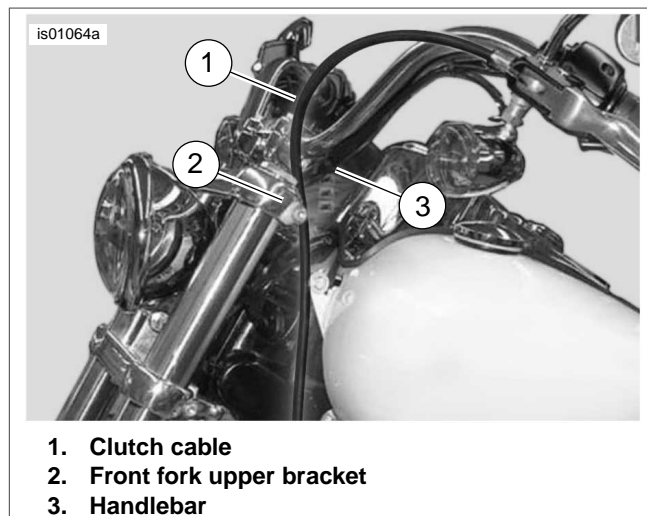

Figure 7. Clutch Cable Routing, Upper (2006-Later Dyna Models Except FXDB)
4. **All Dyna models (except FXDB):** See Figure 7. Route the clutch cable (1) behind the front fork upper bracket (2) and **under** the handlebar (3).